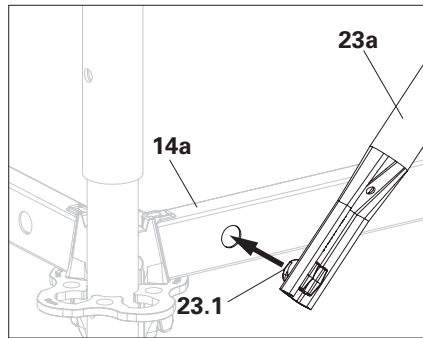

Fig. A4.08a
1. Bring the ledger diagonal up to the horizontal ledger at an angle of approx. 45°. (Fig. A4.08a)